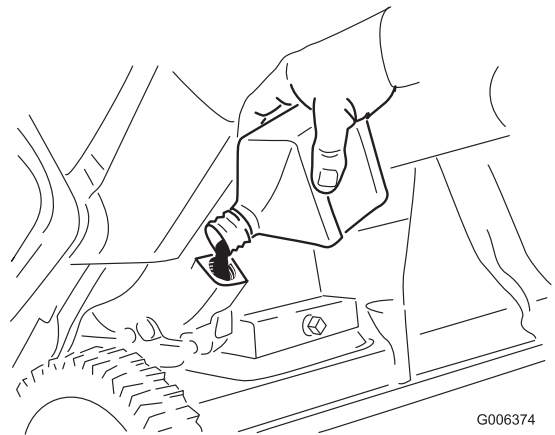

Figure 32
8. With the machine in the operating position, **carefully** pour oil into the oil-fill hole. Wait 3 minutes for the oil to settle and add enough to bring it to the point of overflow. There should be very little, if any, oil left in the bottle (Figure 32).